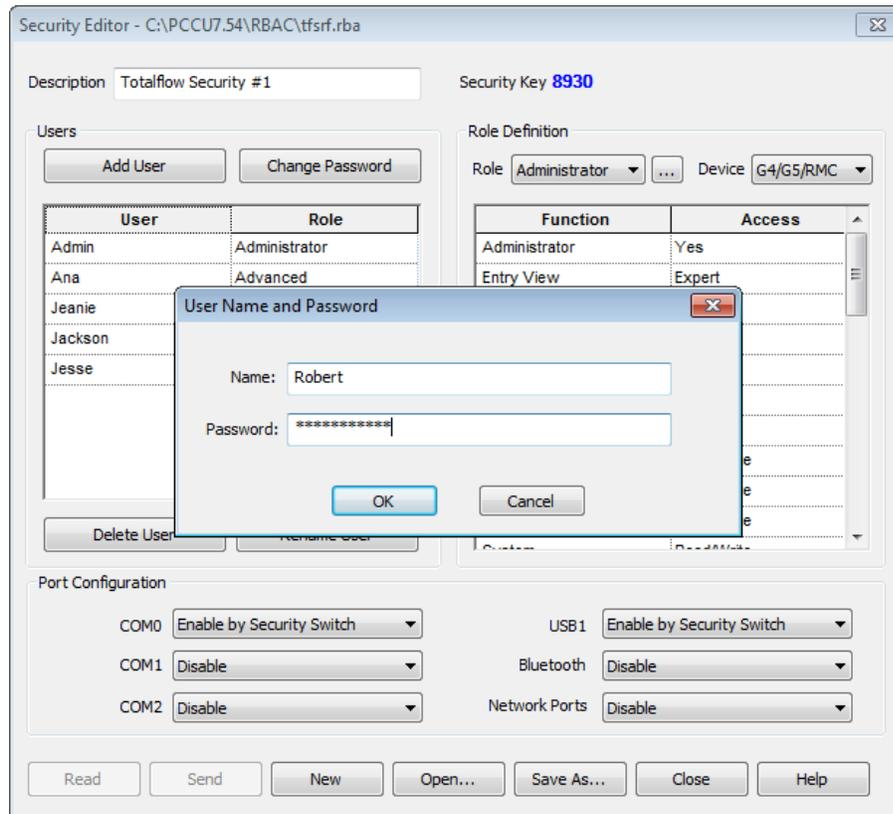

Figure 49: User Name and Password dialog box
- c. Type the user name in the **Name** field in the User Name and Password dialog box (Figure 49).
2. Type the user name in the Name field in the User Name and Password dialog box (Figure 49).